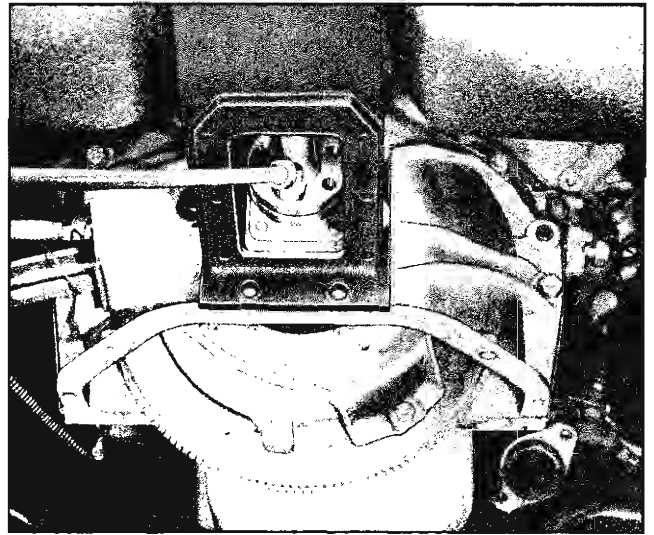

Fig. 4-13 Removing Bolts from Propeller Shaft Flange
6. Remove six bolts from propeller shaft flange (Fig. 4-13).